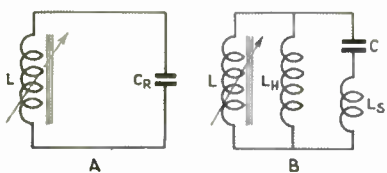

Fig. 4. Permeability tuned circuit; trimmer in series with the capacitance
This circuit, shown in Fig. 4, is similar in form to that of Fig. 2. The design equations are derived in a manner similar to that in the previous cases. The equations are,
and not differential values for values of  $L$  in Fig. 4 should be kept in mind as in the previous equivalent case of Fig. 2, where absolute values of  $C$  are assigned. Here again the similarity between Eqs. (13) and (19), (14) and (20), (15) and (21) should be noted.